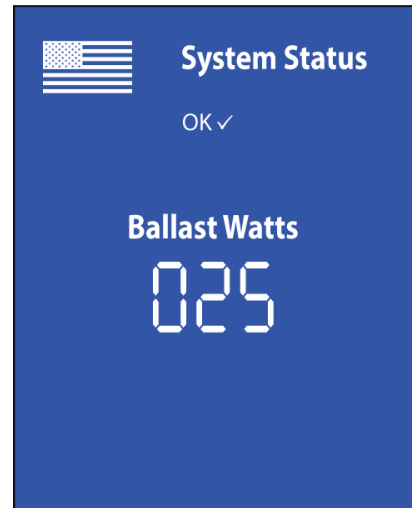

Fig 3
- Green LED on, blinking decimal point to the right = System Check OK, U.V. System is operational. (**Fig. 3**)